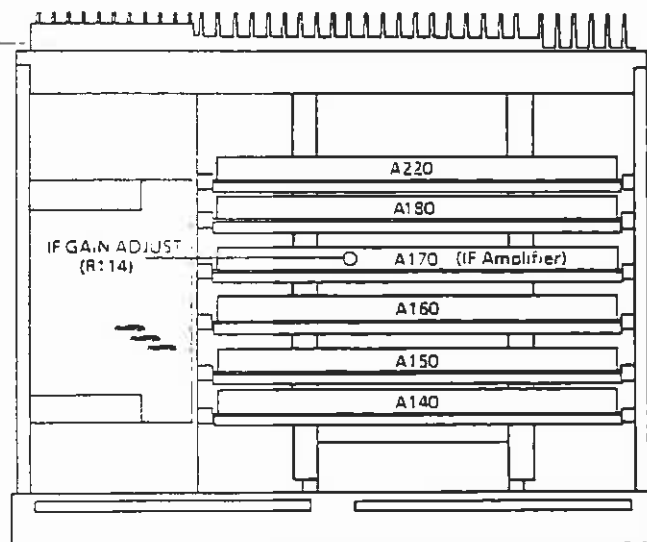

Fig. 4-6 Position of the potentiometer IF GAIN ADJUST, R114 (instrument seen from above)
- ▶ In the case of an indication outside this range the level display must be set to 60 dB μ V \pm 0,2 dB by turning the potentiometer IF GAIN ADJ (cf. fig. 4-6).